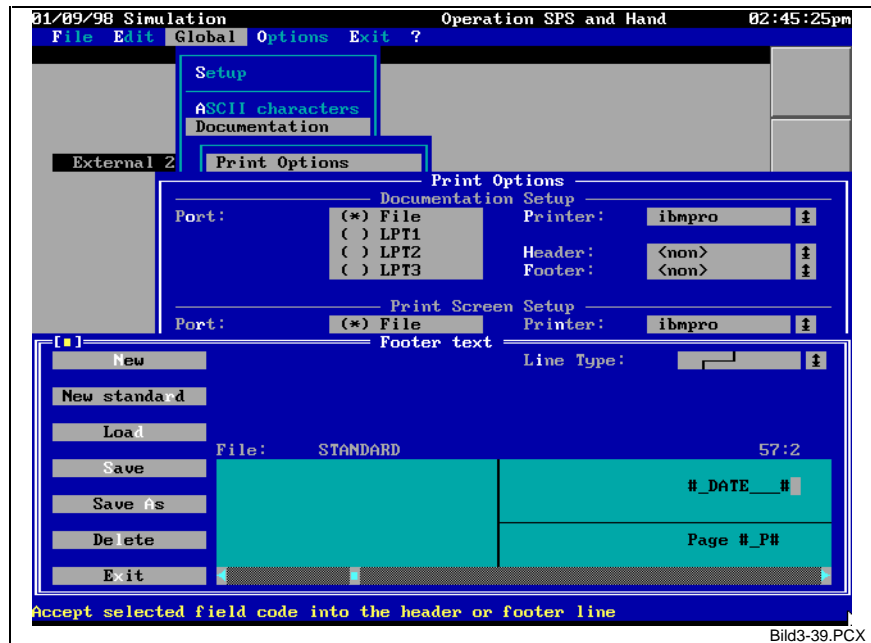

Fig. 3-39: Editor for header and footer texts
**Functionality** The text that is printed at the beginning and at the end of each page can be edited in a separate editor (see Fig. 3-39). Such a text may contain a maximum of 6 lines and 255 columns. The <Shift>+<Cursor> key combination can be used for drawing lines.